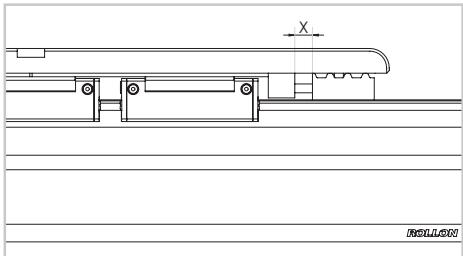

Fig. 2
- 1) Take the measurement of the distance X between the carriage and the belt tensioner (Fig. 2)